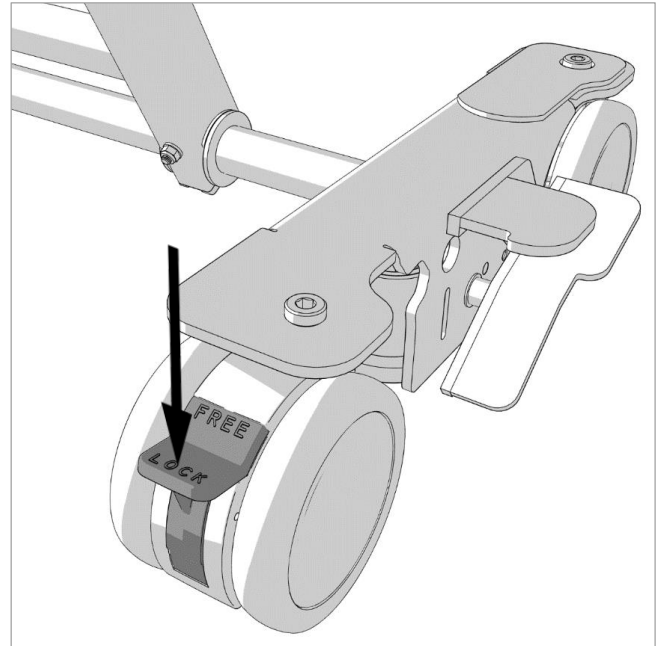
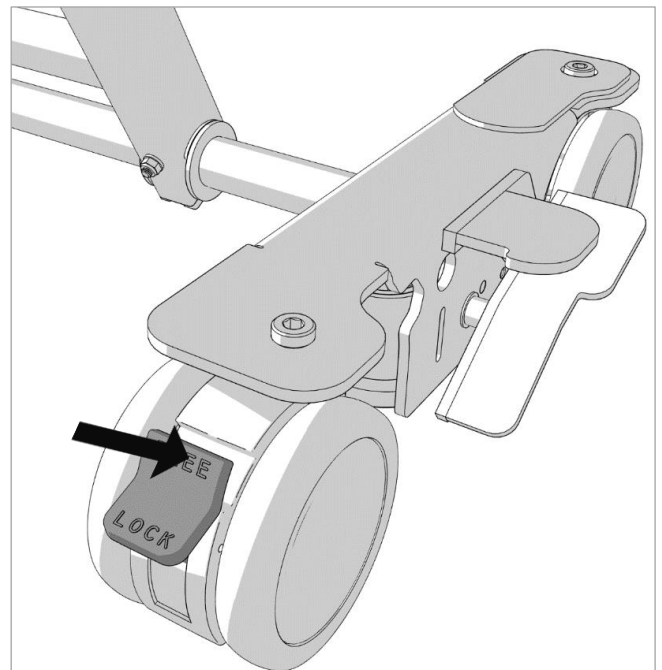

Figure 12.2
Figure 12.3
1. To engage the directional lock, press the lower part of the directional lock pedal (marked lock) as in Figure 12.2 until the lever locks into position.
2. To release the directional lock, press the upper part of the directional lock lever (marked free) as shown in Figure 12.3 until the lever disengages and moves to the free position as shown in Figure 12.2.